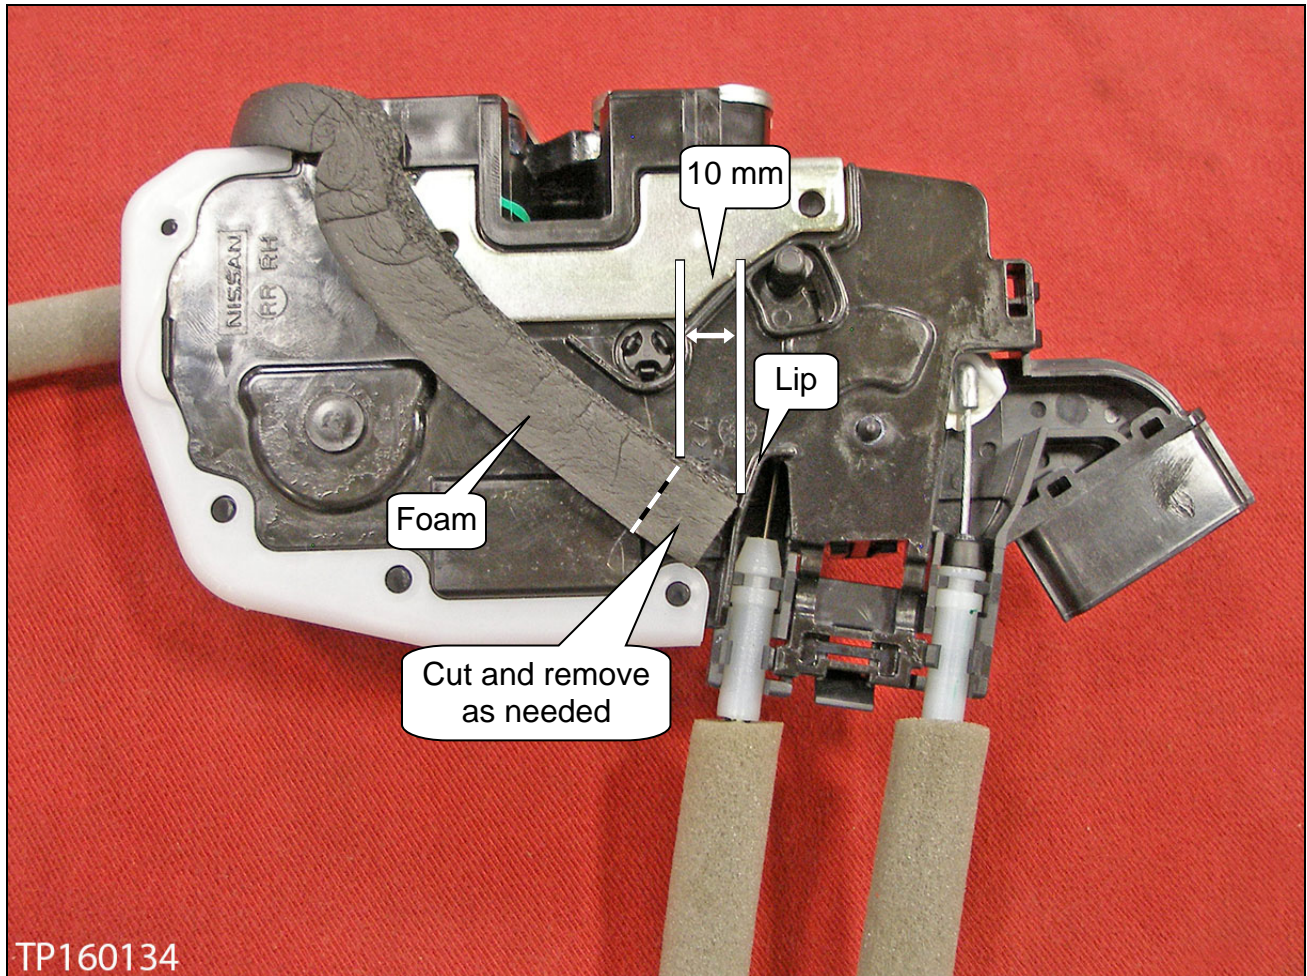

Figure 7
4. New door lock: Inspect the gap between the one end of the existing foam and the lip shown in Figure 7.